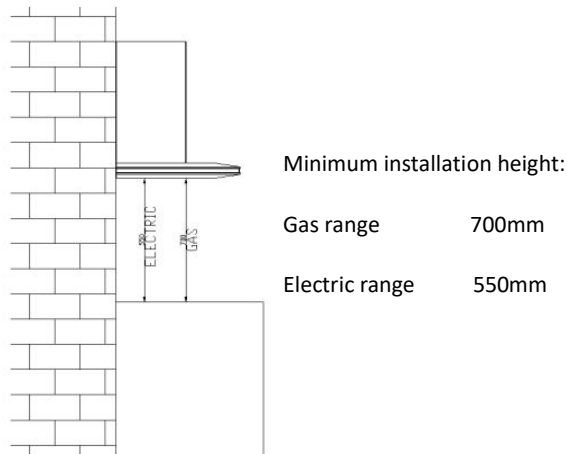

Fig. 6
- The extractor hood can be installed over any gas and electric cooktop. Minimum installation height from the bench top to the bottom of the hood is 700mm (gas range) and 550mm (electric range).Fig 6